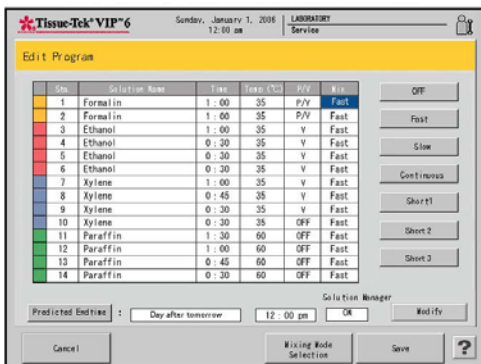

Figure 3-EEE
- Touch the Mix field in the step to be modified (Figure 3-EEE).